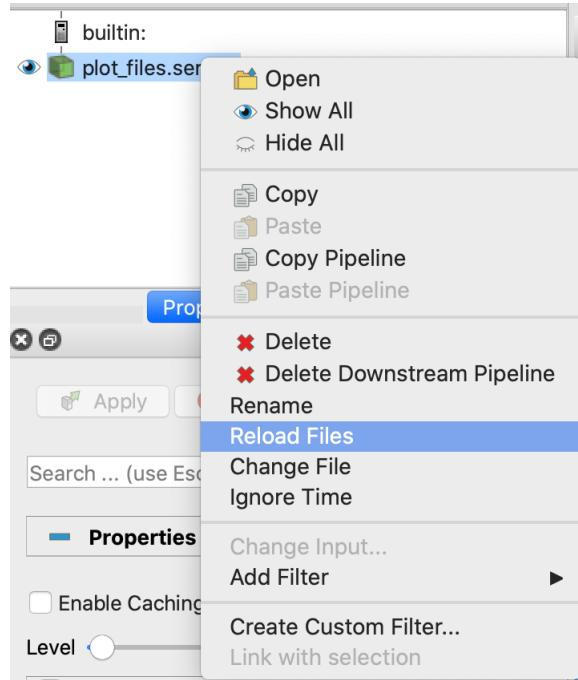
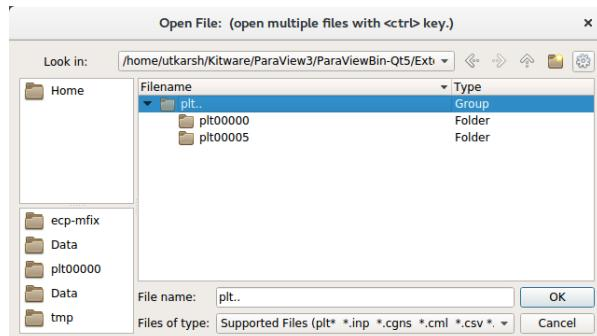

Fig. 18.2: : File dialog in ParaView showing how to reload a series file
Fig. 18.3: : File dialog in ParaView showing a group of plotfile directories selected
2. Navigate to your run directory, and select the fluid or particle plotfile. Note that you can either open single/multiple plotfile(s) at once by selecting them one by one or select an ensemble of file, labelled as `plt..` and indicated as a Group in the “Type” column of the file explorer (see Fig. 18.3). In the later case, Paraview
This will generate a file `plot_files.series`. Open ParaView, and then select “File” → “Open”. In the “Files of Type” dropdown menu (see Fig. 18.3) choose the option All Files (*). Then choose `plot_files.series` and click “OK”. Now the plotfiles have been loaded as a Group as in Step 2 of section ParaView. Now, you can follow the steps 2 to 7 in the section ParaView to plot. As new plotfiles are generated, just re-run the bash script to re-generate the `plot_files.series` file, right-click on `plot_files.series` in the ParaView menu, and click on “Reload Files” (see Fig. 18.2).
1. Run ParaView v5.7, and select then “File” → “Open”. You will see a combined “plt..” group. Click on “+” to expand the group, if you want inspect the files in the group. You can select an individual plotfile directory or select a group of directories to read them a time series, as shown in Fig. 18.3, and click OK. ParaView will ask you about the file type – choose “AMReX/BoxLib Particles Reader”.